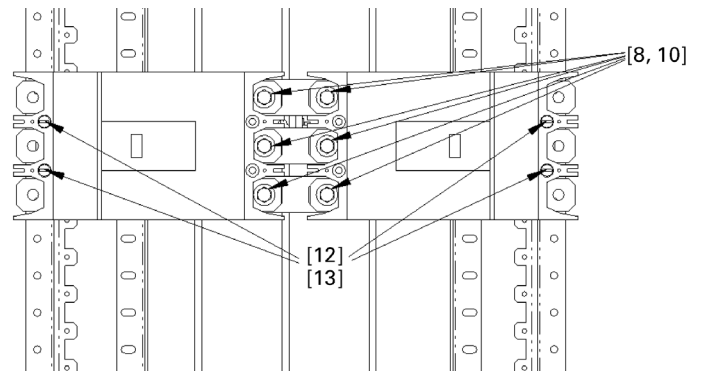

Figure 22. Installing the circuit breakers on the mounting brackets and strap blocks.
**7. Install the circuit breakers.** Position the breakers so that the line- or ON-side terminals rest on the underlying strap contact blocks and the opposite sides are supported by the mounting brackets [3], as shown in Figure 22. Align the holes in each breaker housing with the corresponding holes in the mounting brackets. Secure the breakers to the brackets with the machine screws [12] and flat washers [13] and tighten to 18 in-lb. Attach the line-side breaker terminals to the threaded holes in the strap contact blocks with conical spring washers [8] and hex-head bolts [10]. Tighten each connection to 75 in-lb.